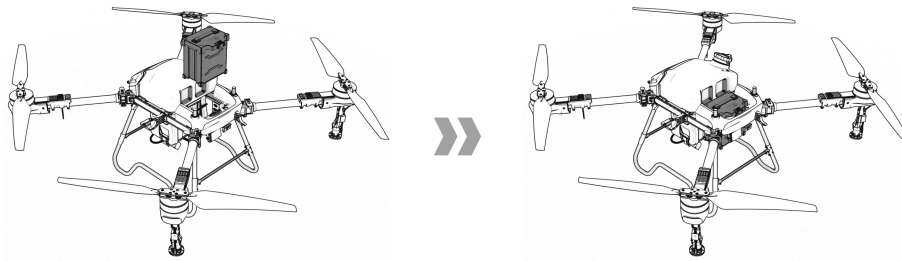

Figure 1-36 Insert the battery
Step 2: Connect the battery output port to the body, and the battery is locked in when you hear a “click”. See Figure 1-36.